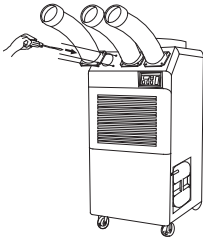

Figure 19
3. Use screws (enclosed inside of box with cool air outlet hose(s) to install the cool air outlet hose(s) on the air conditioner as shown in Figure 19.